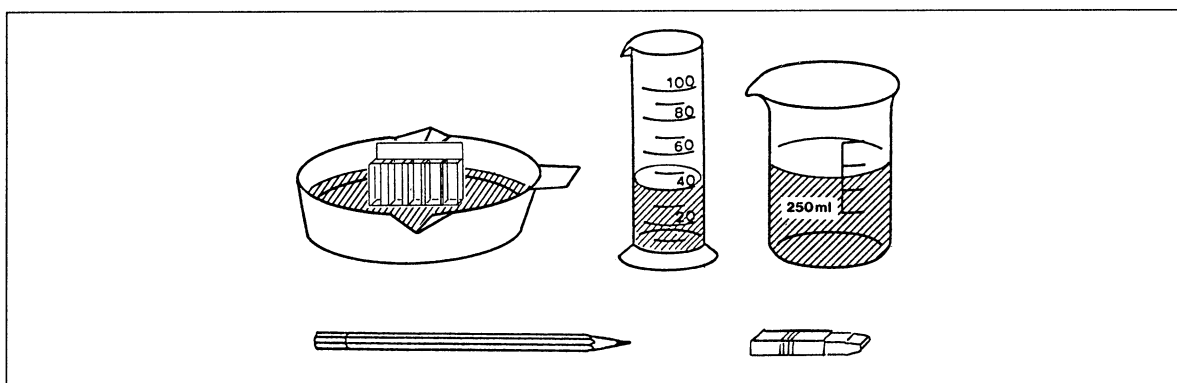

Fig. 1 Investigating capillary action.
1. Lay out the apparatus ready for use, as shown in fig. 1.